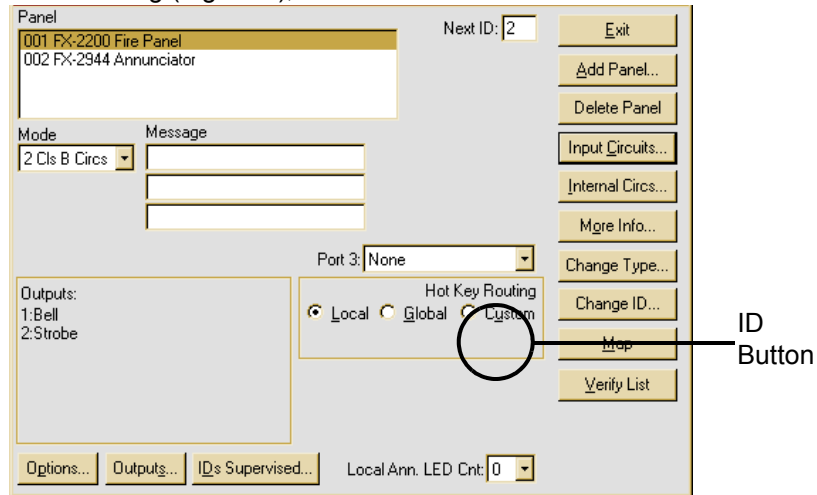
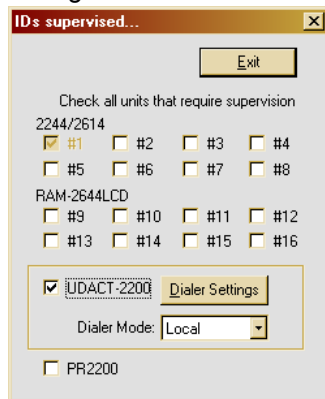

Figure 3: Panels Screen
Figure 4: Dialer Settings Button
- c. Click on the Panels button to access the Panels screen (Figure 3).
- In the Panels screen (Figure 3), click on the IDs button to access the IDs dialog (Figure4). In the IDs dialog (Figure 4), check the UDACT-2200 check box and click on the Dialer